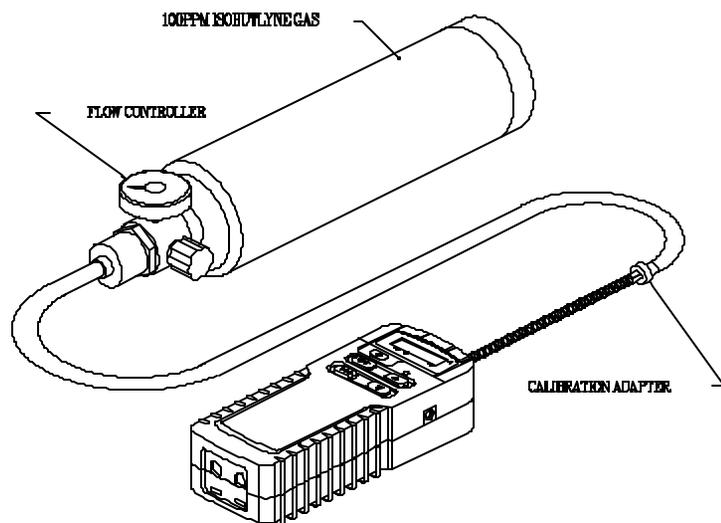

Figure 4.2 Standard reference gas calibration setup
Figure 4.2 shows the typical installation of standard reference gas calibration. It includes:
1. Insert the calibration adapter into the gas inlet tube of the Personal PID Unit, and connect the calibration adapter with the standard gas bottle, as shown in Figure 4.2.